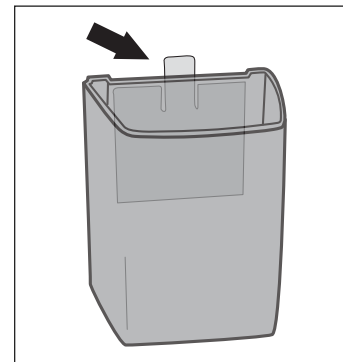

Figure 4
1. Remove lid (as described previously). Push latch out and detach dispenser from back plate. (See Figure 4)